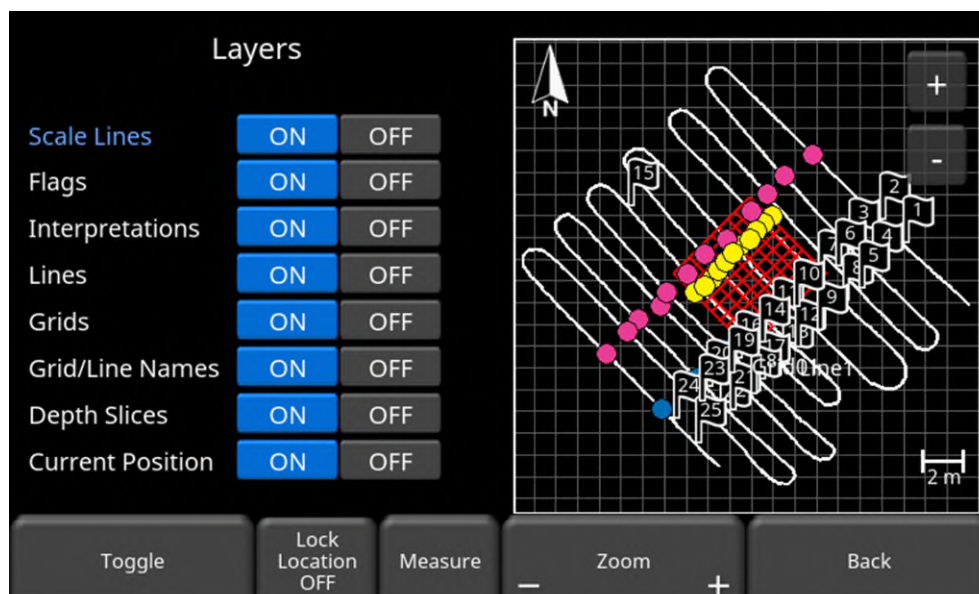

Figure 9-4: Setting layer options in MapView
- Pressing Options will display the screen shown in Figure 9-4 allowing you to customize the layer view. This is explained in the section below.
Pressing the **Options** button will allow you to customize what is shown in the MapView display. The screen will be split between the Layer options on the left and the MapView display on the right (Figure 9-4).
- Lines – turning this off will remove all collected lines from the display (white lines in Figure 9-4).
- Grids – turning this off will remove all grids (red grid in Figure 9-4).